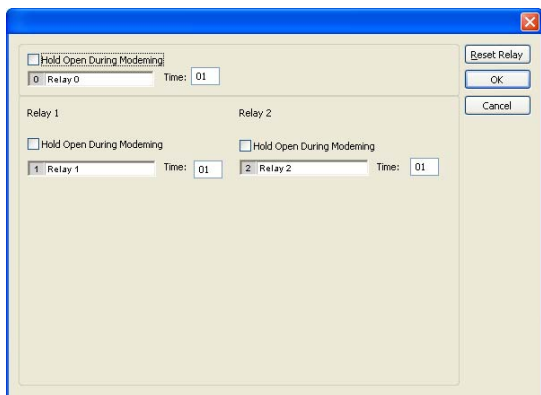

Figure 16
1. From the SYSTEM INFO screen, click the RELAYS button in the tool bar. The relay information screen will appear (fig 16).